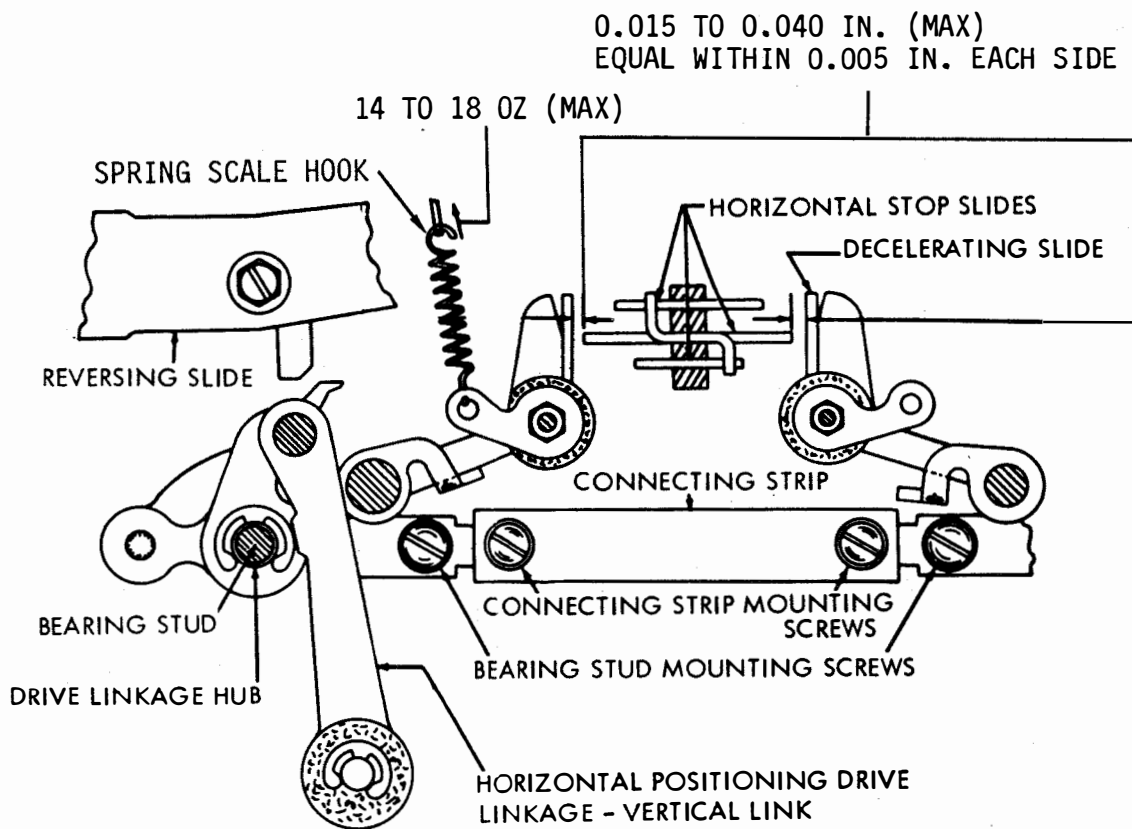

Figure 6-551. Horizontal Positioning Drive Linkage and Drive Linkage Tension Spring With Earlier Design Drive Linkage and Tension Springs, Front View
(1) Horizontal Positioning Drive Linkage with Earlier Design Driver Linkage and Tension Springs. Adjust as follows:
- (a) Refer to Figure 6-551.